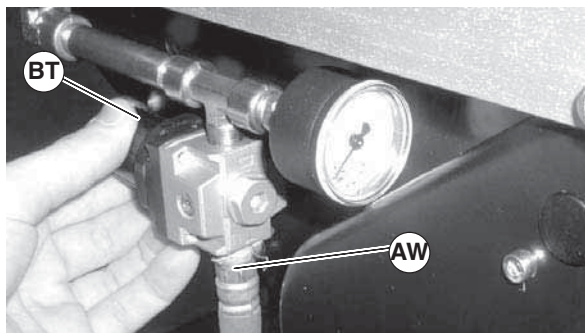

Figure 43
1. Connect air supply (Figure 43, item AW) to regulator (BT).
2. Adjust regulator (Figure 43, item BT) until gage reads the appropriate pressure. See following table for suggested pressures.